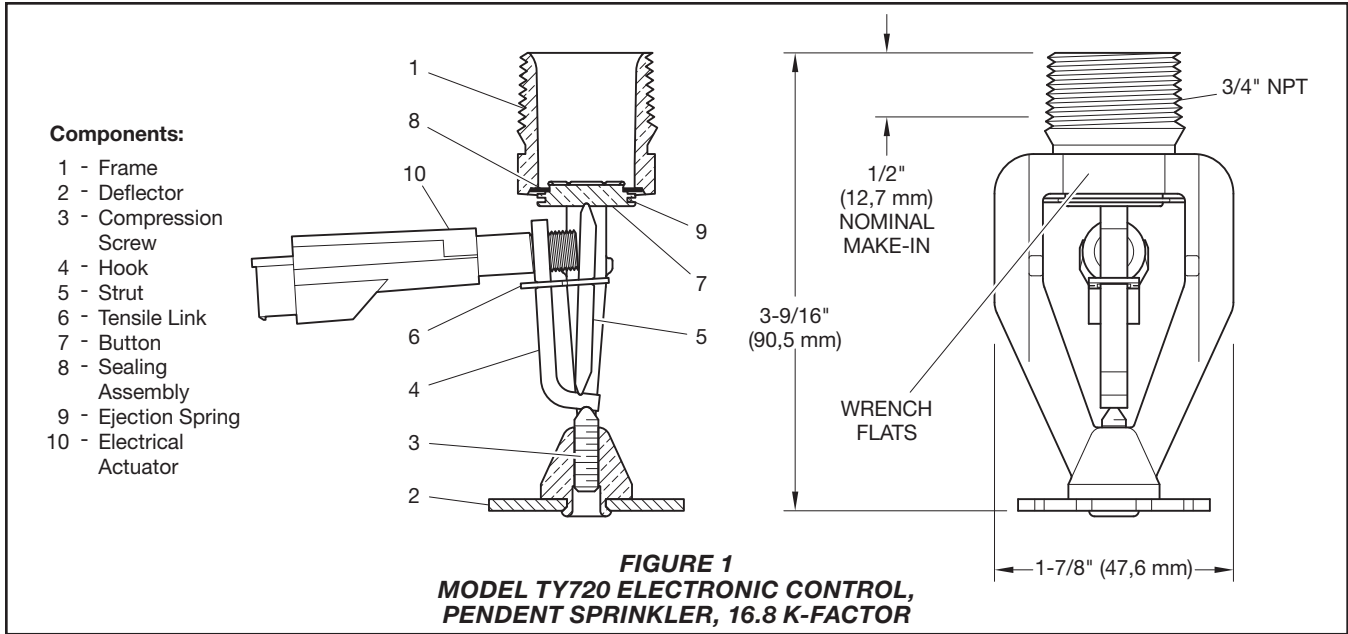

FIGURE 1
The TYCO Model TY720 Pendent Sprinkler is an electronically controlled sprinkler having a nominal K-factor of 16.8, see Figure 1.
Step 3. Apply a W-Type 21 Sprinkler Wrench to the sprinkler by fully seating the wrench recess on the sprinkler wrench flats, see Figure 1.